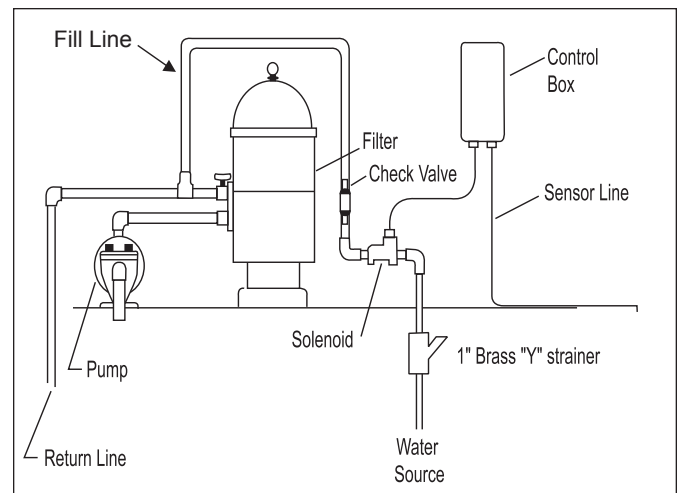
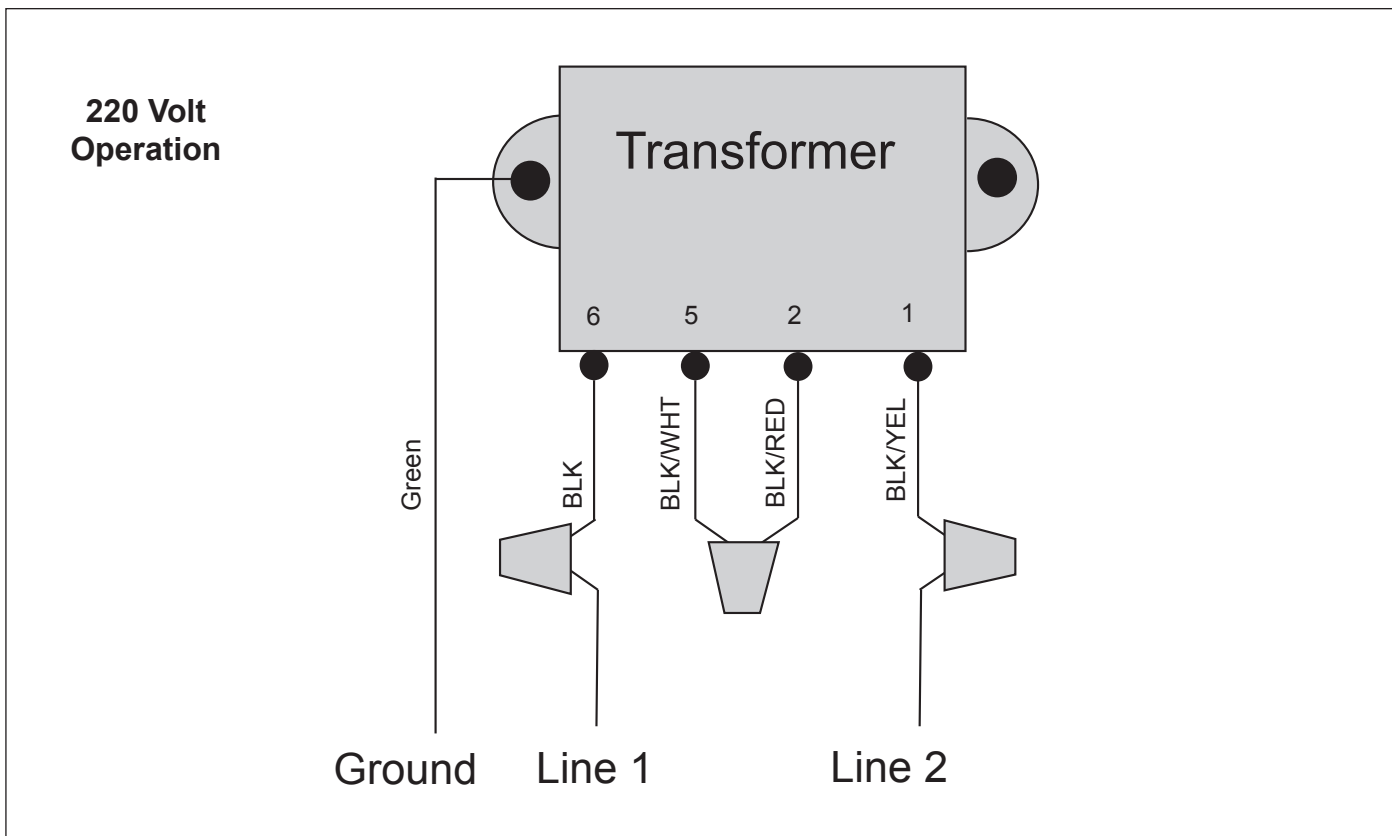
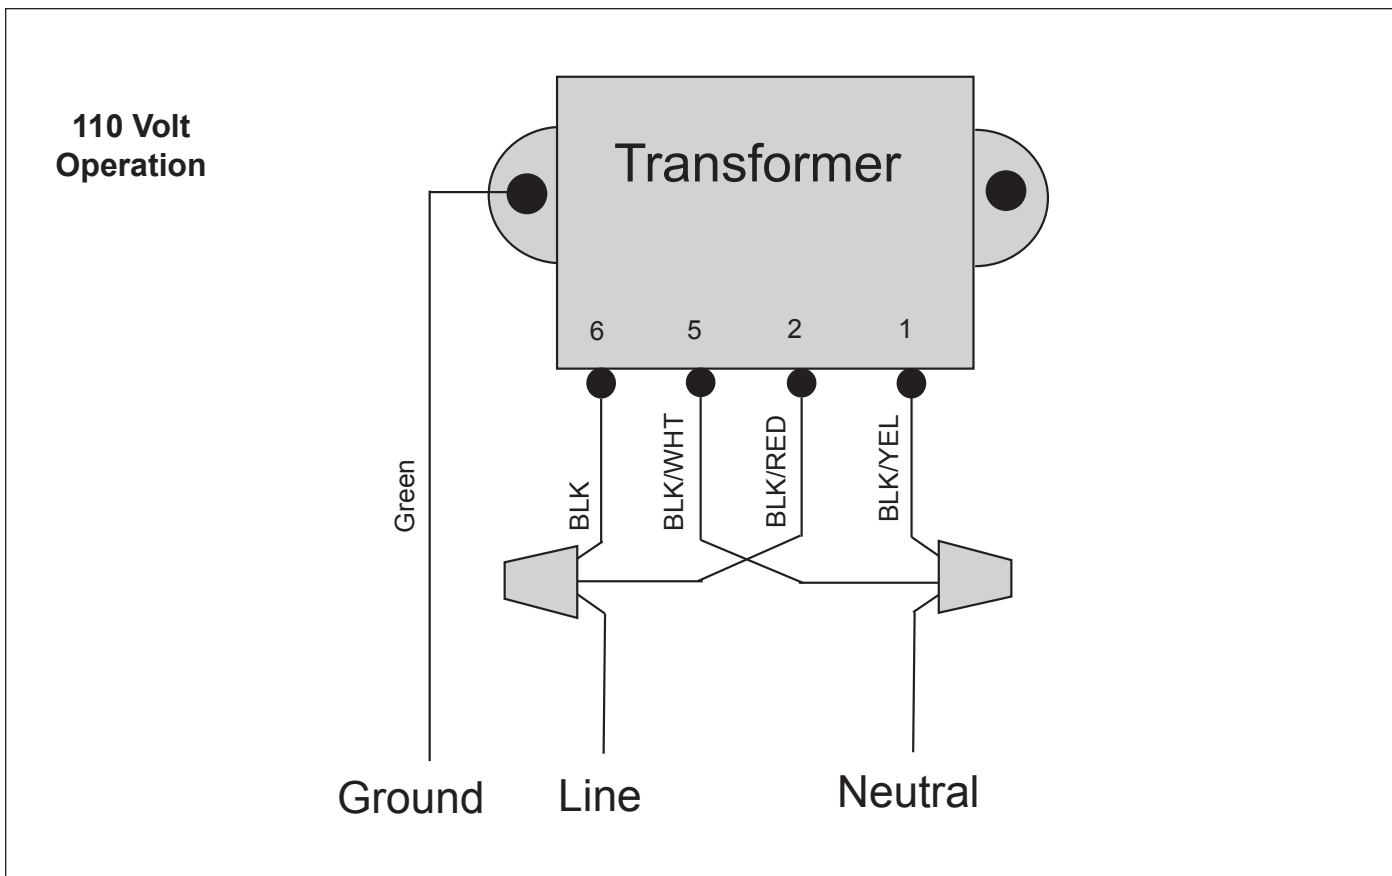

Figure 1. K-1100 or LEV110CK/2G Installation
Figure 4. K-1100, K-2300, and LEV110CK/2G Factory Wiring for 220 Volt Operation
Figure 5. K-1100, K-2300, and LEV110CK/2G Modified Wiring for 110 Volt Operation
Models K-1100, K-2300, and LEV110CK/2G are factory wired for 220 VAC service. If available electrical service is 110 VAC, the power supply wiring must be changed to operate on 110 VAC as shown in figures 4, and 5.
See Figure 4 for factory-direct wiring for 220 volt operation and Figure 5 for modified wiring for 110 volt operation.
1. Mount the control box to the wall near the pump and filter. See Figure 1. **Do not install the control box within 10 ft (3 m) of the pool edges.**
3. Check the source voltage. (All three (3) units are factory wired for 220 volt operation.) To modify the wiring for 110 volt operation, see *Section 3.3*.
4. For 220 volt operation, connect the black wire to line 1 and connect the black wire with the yellow stripe to line 2. See Figure 4.
Refer to Figures 4 and 5 and do the following:
1. Cut the splice cap connecting the black/white and the black/red wires. See Figure 4.
2. Connect the black/red wire with the black wire and connect to the line side of power. See Figure 5.
3. Connect the black/white wire with the black/yellow wire and connect to the neutral side of power. See Figure 5.